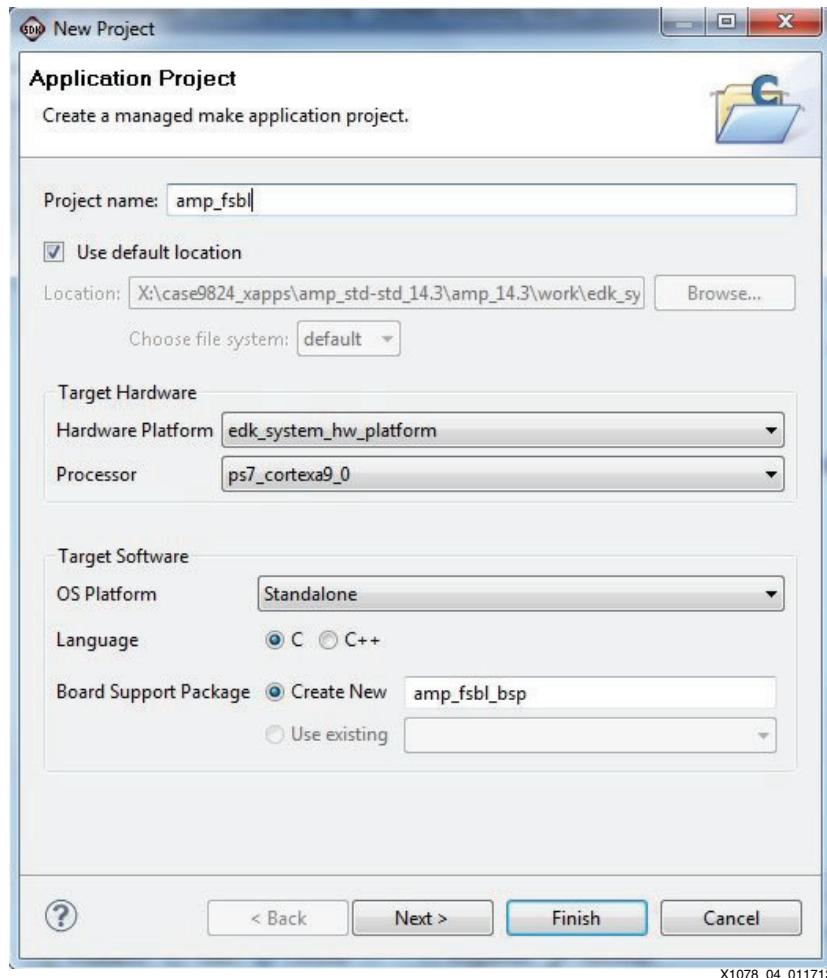

Figure 4: Create FSBL
2. Create the FSBL using the new template from the repository (Figure 4):